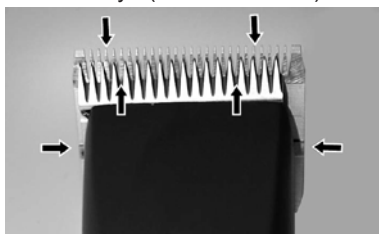

Fig. 22
To receive good clipping results and to increase the durability of the clipper and the clipperhead, it is necessary to apply a thin oil coat between top and bottom blade (fig. 22).
- ▶ Lubricate the blades sufficiently during the clipping (at least every 15 minutes), so that they do not drain (fig. 22).
The blades must be oiled before, during and after every use. When the blades of the clipper are leaving stripes or are running with reduced speed, this is a signal that oil is required. Place a few drops of oil ahead and laterally on the clipper blades (see arrows in fig. 22). Wipe off the excessive oil with a smooth, dry cloth. Lubrication sprays do not have sufficient oil for a good lubrication, but serve for cooling the blades. Immediately change damaged or crentated blades to avoid injuries.